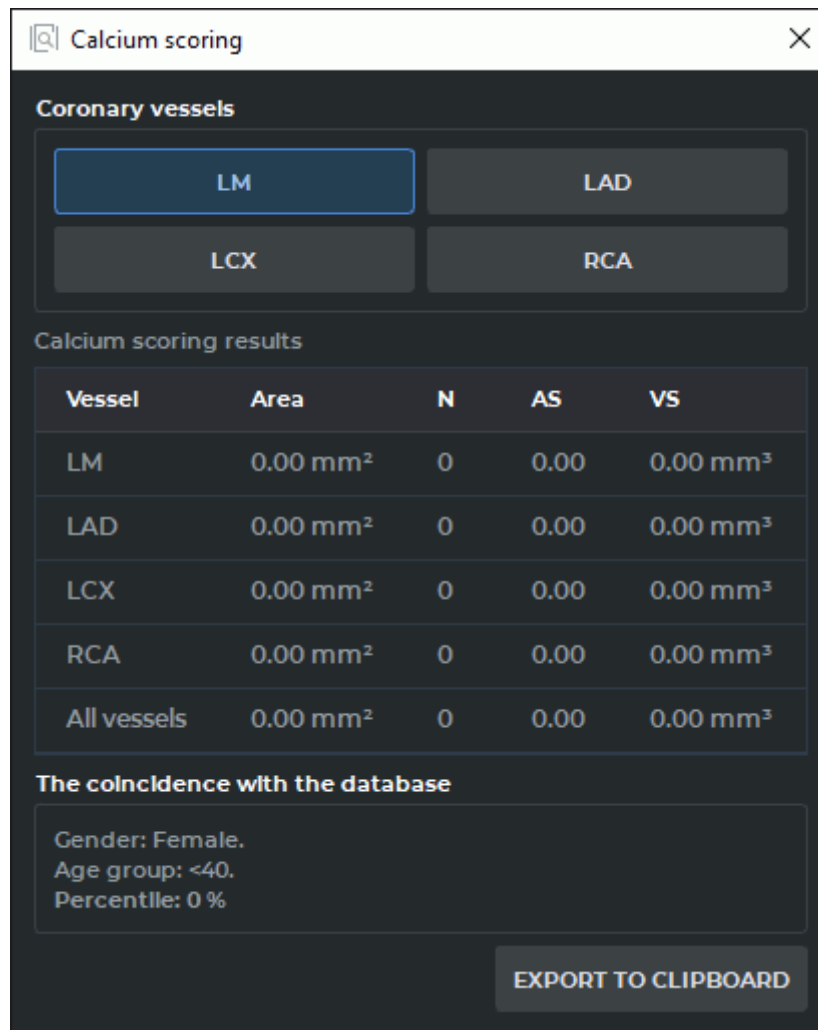

Figure 2.76: Calcium scoring
4. When the calcium scoring tool is active, a window shown in Fig. 2.76 is displayed on the screen. Move the window if necessary. To do this, move the cursor over the window title (highlighted in red in the figure) and move it, holding the left mouse button. In the upper part of the window there are vessel selection buttons:
The measurement results are displayed in the window shown in Fig. 2.76: